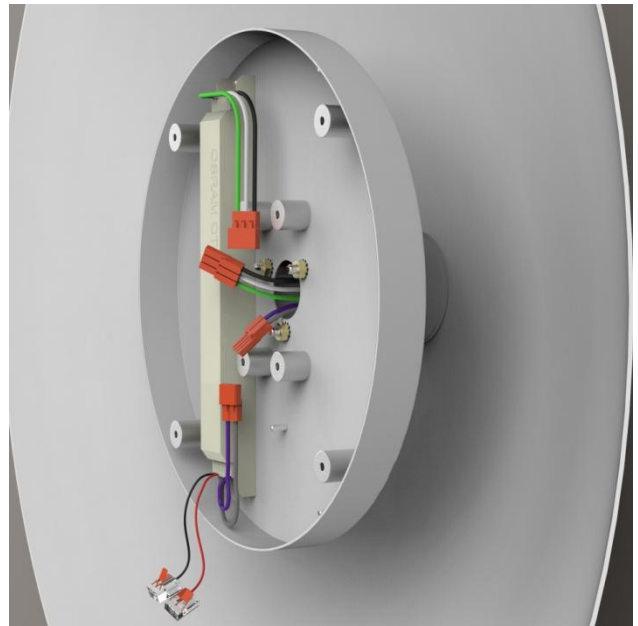

Figure 8
- Connect wiring harness(s) to driver wiring (Figure 8).